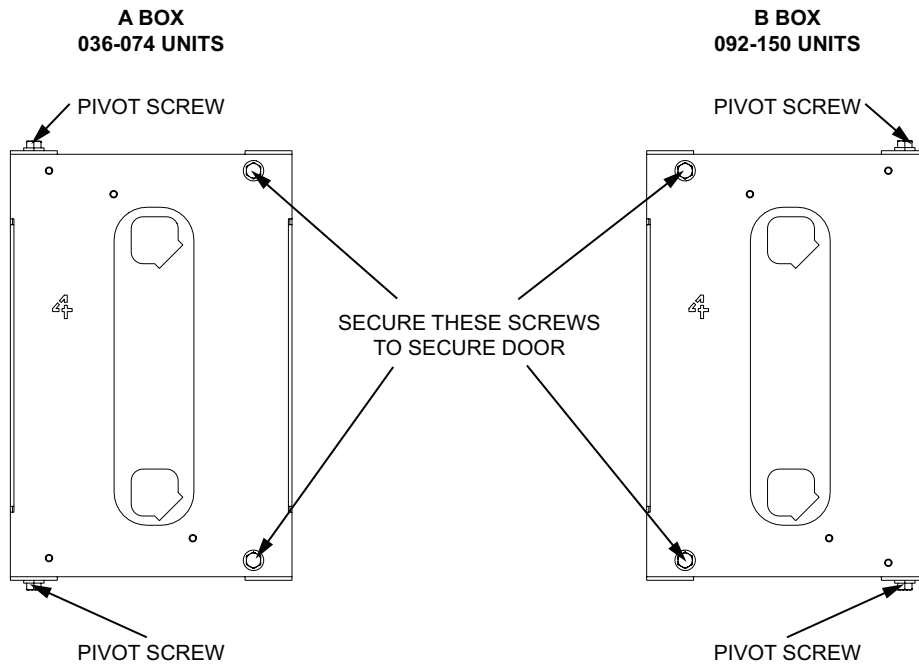

FIGURE 11
- 2 - Mount the supply air sensor to the bracket door then mount the bracket door to the main bracket. See FIGURE 10 and FIGURE 11.
NOTE - A and B box units have different door configurations. Secure screws in their proper locations and leave unused pilot holes empty. See FIGURE 11.